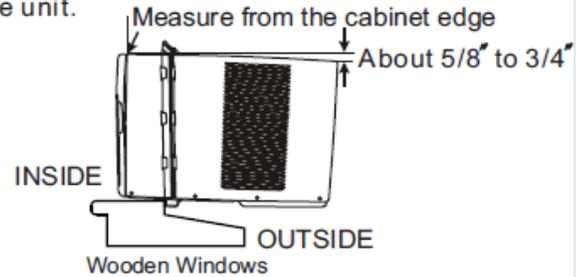

Fig.5
A. Keep a firm grip on the air conditioner, carefully place the unit into the window opening so the bottom of the air conditioner frame is against the window sill (Fig.5). Carefully close the window behind the top rail of the unit.